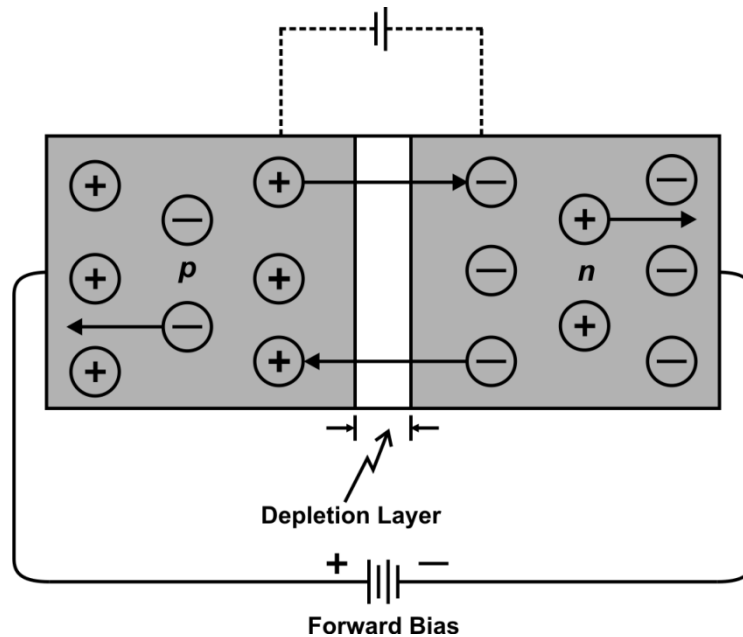

Fig. 1.8 Forward Biased p-n junction diode
- I. The p-n junction is forward biased as shown in Fig. 1.8 When forward biased, the positive holes in the p-section are repelled by the positive pole of the battery towards the p-n junction. Simultaneously, the negative electrons in the n-section are repelled by negative pole of the battery towards the junction.